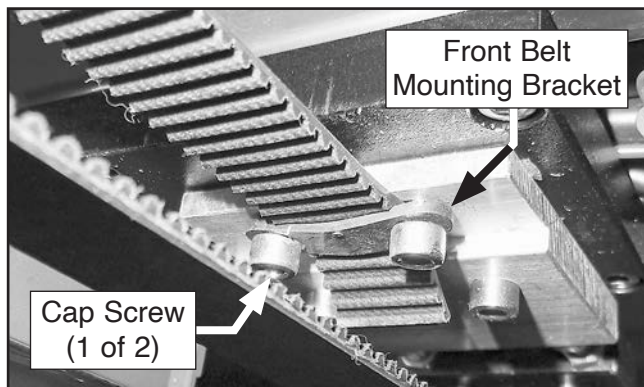

Figure 83. Y-axis front belt mounting bracket location.
5. Remove (2) cap screws on front belt mounting bracket securing Y-axis synchronous belt, then remove bracket from belt, as shown in **Figure 83**.